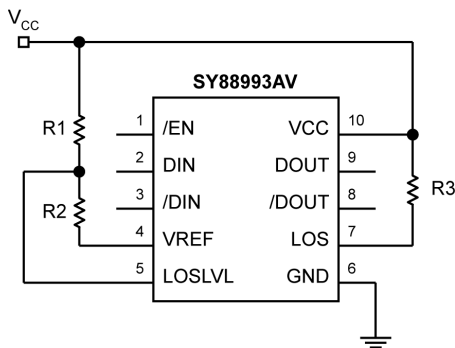

Figure 1. Typical Schematic of the Post Amplifier Showing Resistive Divider which Sets LOS/SD Sensitivity
Micrel post amplifiers have the capability to set the LOS/SD assert/de-assert sensitivity by setting the DC voltage level on the LOSLVL or SDLVL input. In actuality, the sensitivity is set by defining the voltage difference between an on board reference voltage (V_{REF}) and the LOSLVL or SDLVL pins. Using a voltage divider between V_{CC} and V_{REF} , and connecting the center point of the divider to the LOSLVL or SDLVL input as shown in Figure 1.
Micrel's post amplifier data sheets have graphs that show the input sensitivity to assert/de-assert LOS or SD as a function of the LOS/SDLVL voltage with respect to V_{CC} . Some post amplifiers have the resistor designated as R2 in Figure 1 built internal to the device. Its value is typically 2.8kΩ and the sensitivity in this case can be set with a single R1 resistor using Equation 3 and substituting R2 with 2.8kΩ. These post amplifiers, such as the SY88973V, also show the input sensitivity to assert/de-assert LOS or SD as a function of the resistor value for R1, also known as RLOSLVL or RSDLVL.
- Figure 1 shows R2 and R3.
- Devices with LOS have active low enable (/EN) while devices with SD have active high enable (EN). This feature can be used to cut-off or squelch the output when an input signal is not detected by tying the LOS/SD outputs to the appropriate EN, /EN.